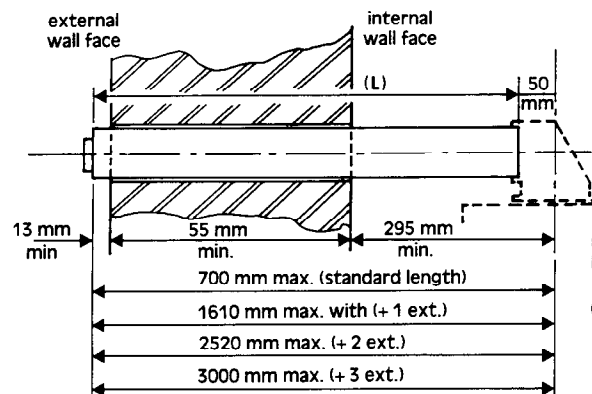

Fig. 3
Fig. 3 d
a) Straight flue (fig. 3 d)
Fig. 3 e
b) Flue with two 45° bends (fig. 3 e)
Fig. 3 f
Fig. 3 g
c) Flue with four 45° bends (fig. 3 f and 3 g)
- 2) Extensions (6 m maximum) fig. 3 f and 3 g including horizontal (2 m maximum) fig. 3 f.
- 5) 45° bends (x 4 maximum) fig. 3 f and 3 g.
N.B. In these two arrangements figs. 3 f and 3 g, the total length of straight extensions must not exceed 6 meters with a maximum of 4 x 45° bends.